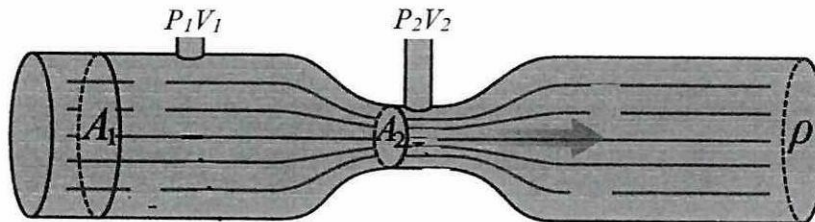

Figure Q2.3: Venturi tube.
- (i) Determine the electrical signal produce by Differential Pressure (DP) transmitter when H_2 is at 700 cm. (6.5 marks)
- (d) The venturi tube shown in **Figure Q2.3** is used by SawitOil Holding to measure the speed of a oil fluid in a pipe. Given that: